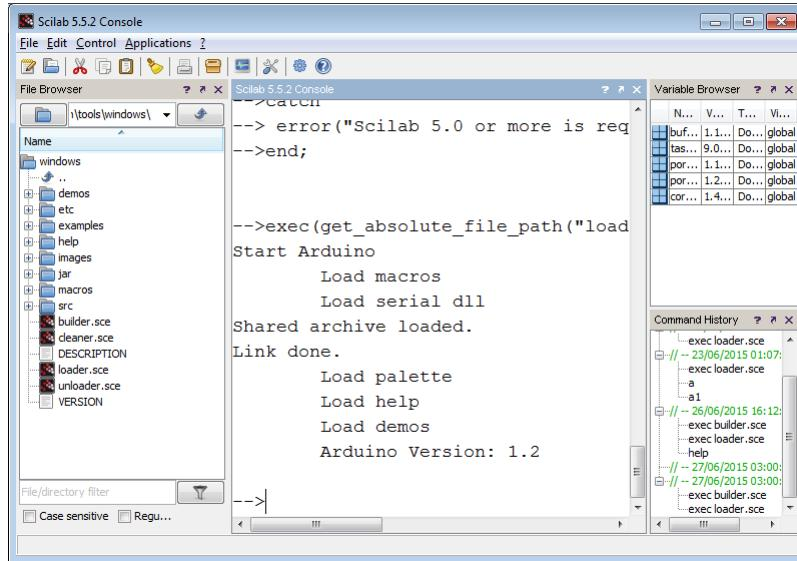

Figure 3.9: Output of loader.sce
6. Next, type the command, `exec loader.sce` - this will load the toolbox. This means all the new functions corresponding to the toolbox are loaded in the workspace. It will also make available new Xcos blocks, if any. The output of this command is as shown in Fig. 3.9. If you clear the workspace for any reason, you will have to execute this command once again3.